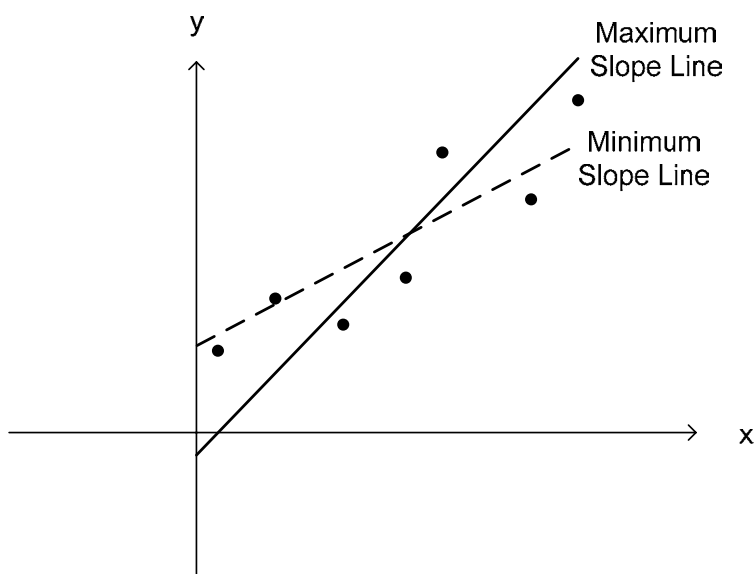

Figure 1. Drawing approximate maximum and minimum lines through data.
- Instead, you will draw two lines that only approximate the trend in the data, one with the lowest feasible slope and one with the highest feasible slope. For each line, consider that the line should pass near every data point with approximately half the data points above the line and half below. This is a subjective process when done by hand. Take care, but realize that the “correct” lines are difficult to determine by hand. And be sure to extend each line to the vertical axis so that you can find the intercept. An example is illustrated in the figure below (Fig. 1)